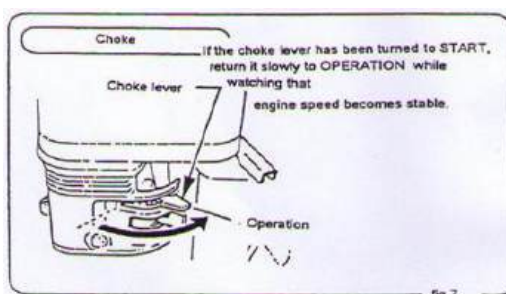

fig. 7
6. If engine has started, while listening to explosion sound, slowly return the choke lever to OPERATION position. (Fig.7)